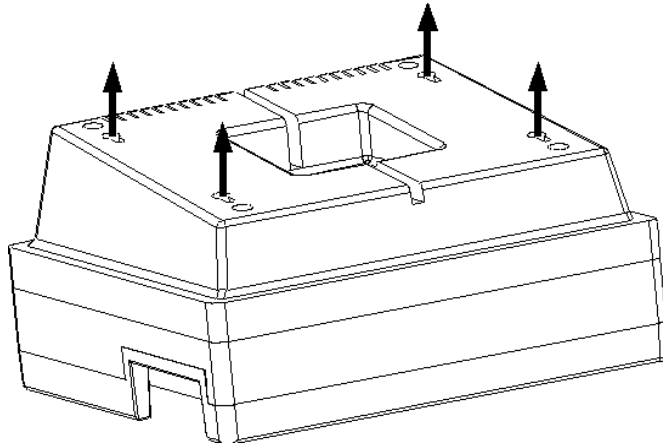

FIG 2
1. Remove the four M4 screws and shakeproof washers holding the base moulding to the Pulsair mother unit (as per fig 2)
1. Remove the 8 screws holding the top and bottom mouldings from the Pulsair 2000/3000 mother unit (as in fig 2). Remove the 6 screws for the Pulsair EasyEye refer to fig 2A